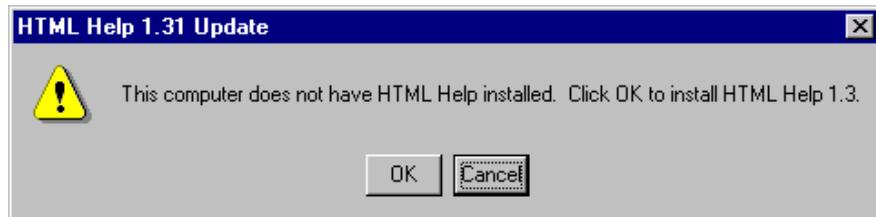

Figure 53. *Installing the Storage Agent, install HTML help*
5. A warning message may appear, if there is no HTML help installed on your system. Click **OK** to install HTML help. If you do not install HTML help, you will not be able to read the documentation provided with the Storage Agent (Figure 53).